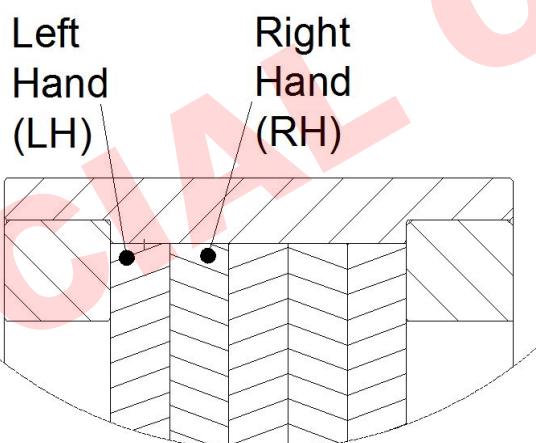

Figure 3 – Crimped Ribbon Element Arrangement for In-Line Flame Arrestors
- Elements have inclined channels and are wound in a way to create right-hand and left-hand channels. Each element with left-hand channels is followed by an element with right-hand channels. This element arrangement order is critical for the proper functioning of the arrestor. Crimped ribbon elements are marked on the outer edge with the direction of the channels and serial number of the element. During removal this order of the elements should be noted, and the same order must be followed during assembly. Refer to Figure 3 – Crimped Ribbon Element Arrangement.